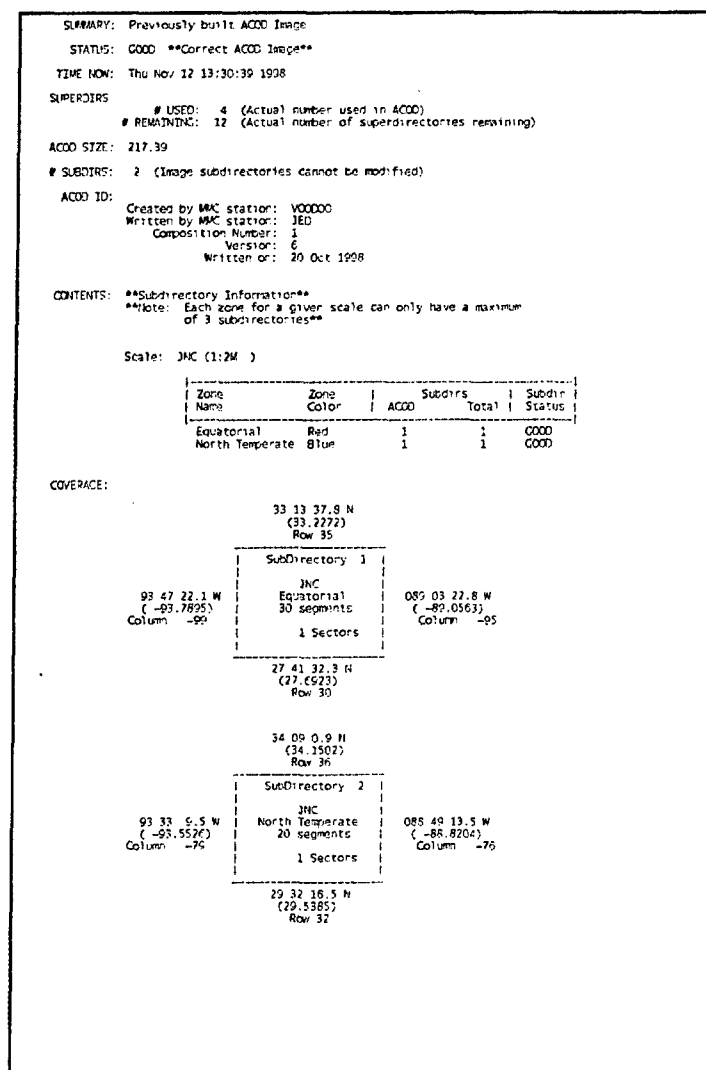

Fig. 34 — Sample AOD summary listing
3.3.6.1.1 Generate AOD Summary — This option generates a printable summary of a previously built AOD (Fig. 34), including current status, date of summary, number of superdirectories used and remaining on the AOD, AOD size in bytes and number of subdirectories written on the AOD. The summary also includes the names of the workstations used to create and write the AOD, AOD image composition and version numbers, and date written. A contents section includes additional subdirectory information, such as map scales and zones. The final coverage section provides the minimum and maximum latitude and longitude values – for each subdirectory – which together define the complete area of coverage.
3.3.6.1.3 Generate Append Summary — This option generates a summary of any existing AOD composition, composition in development, or final AOD image (Fig. 34). For each zone, scale, and subdirectory in the composition or image file, AOD Summary provides the minimum and maximum latitude and longitude, the number of CAC segments defined, and the number of sectors that would be used if the image were written to an AOD. The summary also gives the total number of bytes in the composition.